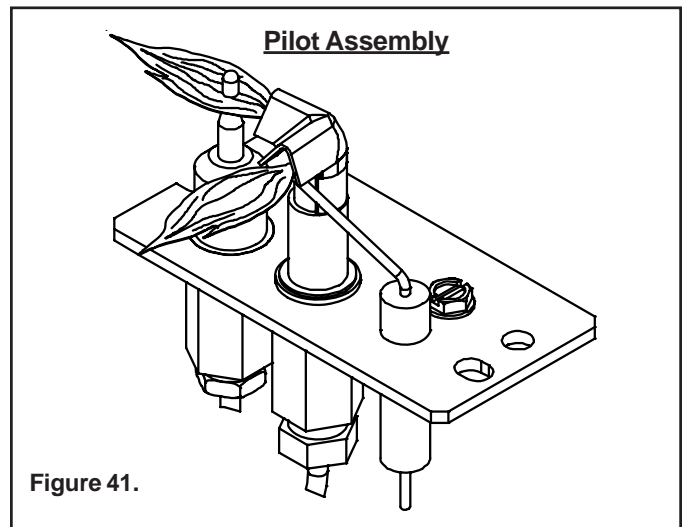

Figure 41.
To obtain proper operation, it is imperative that the pilot and main burner flame characteristics are steady, not lifting or floating. Typically, the top 3/8-inch of the thermocouple should be engulfed in the pilot flame (See Figure 41).
- Remove the four retaining screws in the burner corners. Remove two pilot bracket retaining screws (see Figure 41.) Slide the burner away from the burner orifice.